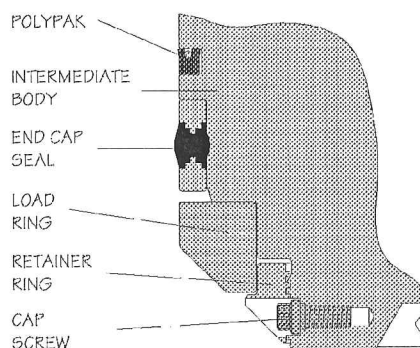

Figure 25. End Cap Seal Replacement detail
4. Refer to **Figure 25**. Inspect the polypak seal and end cap seal on the lower OD of the Running Tool intermediate body. Check for cracks, cuts, or dents. The seals should be smooth and pliable. Replace the seals if necessary. Replace the end cap seal as follows.